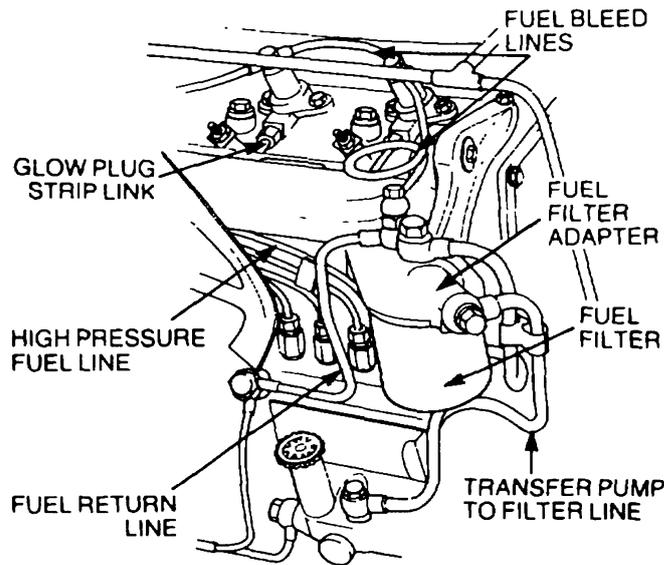

Figure 7 Air Inlet Manifold Removal
- d. Remove the main fuel lines from the fuel filter to the injection and transfer pump (Figure 7).